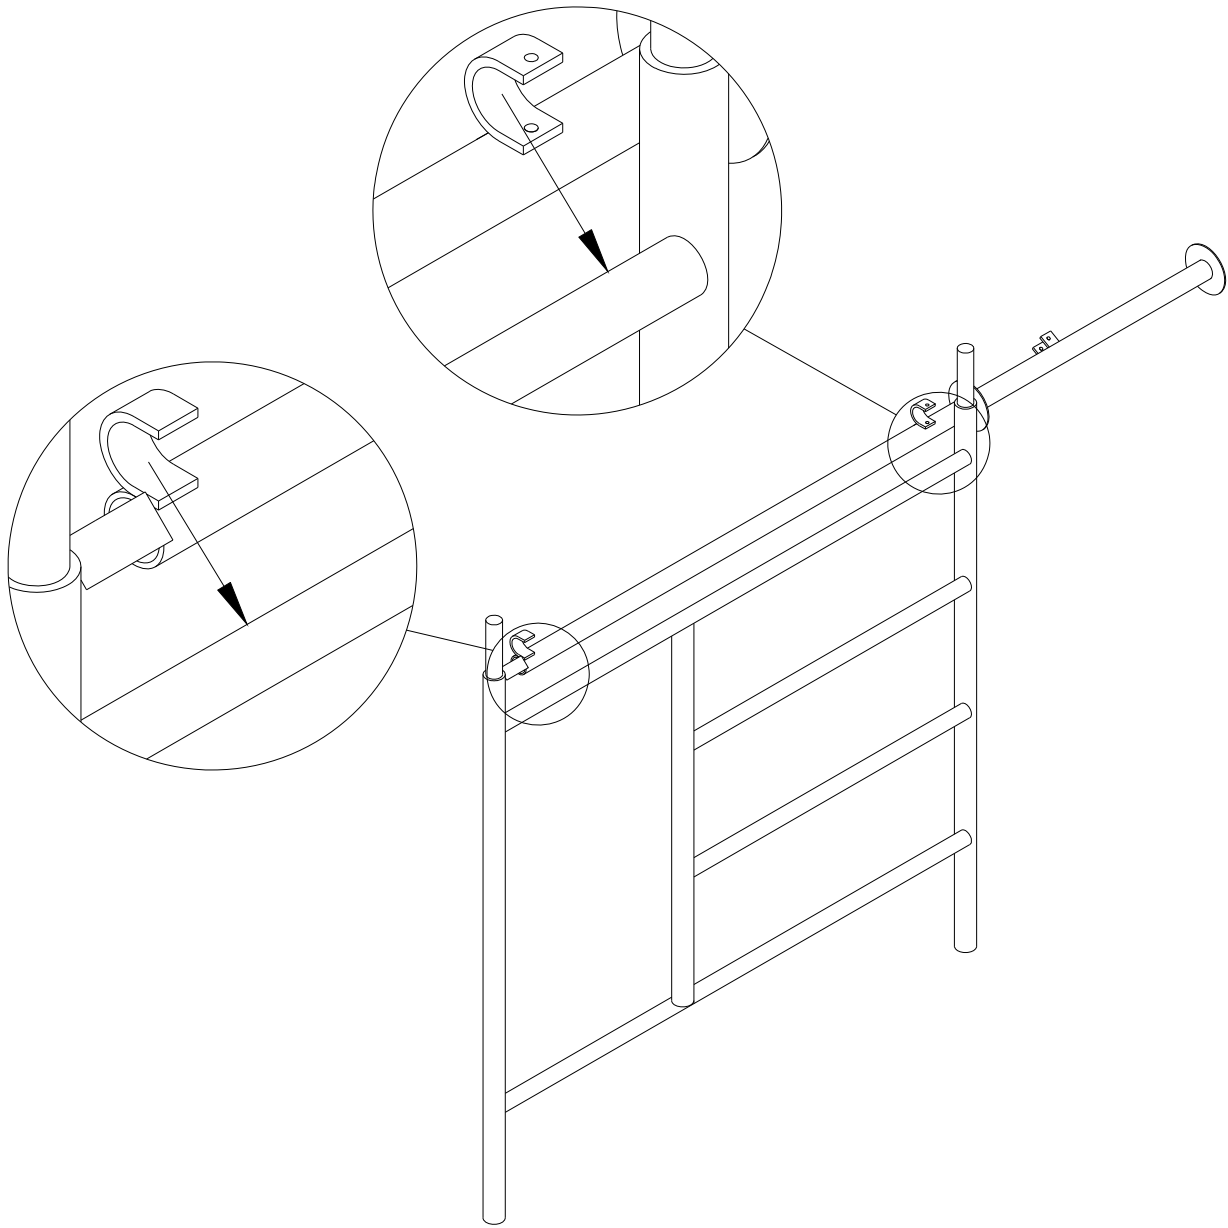

FIG. 1
1. Mount the Support Arm to the scaffold at the height desired for resting the hoist, as shown in FIG. 1.